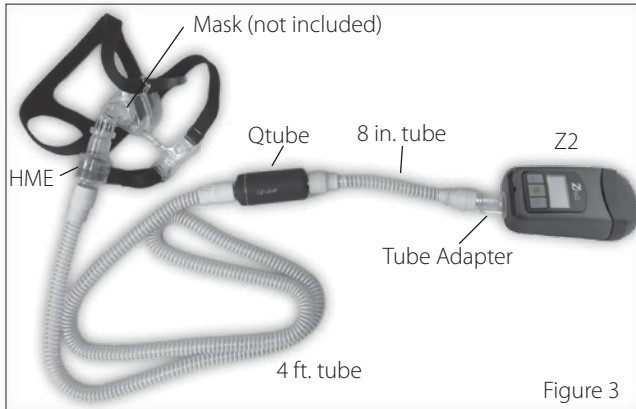

Figure 3
2. Connect the other end of the **8" CPAP Tube** to one end of the **Qtube**. Connect the other end of the **Qtube** to the **4' CPAP Tube**. Connect the end of the **4' CPAP Tube** to the **HME** and the **HME** to the mask. (Figure 3)